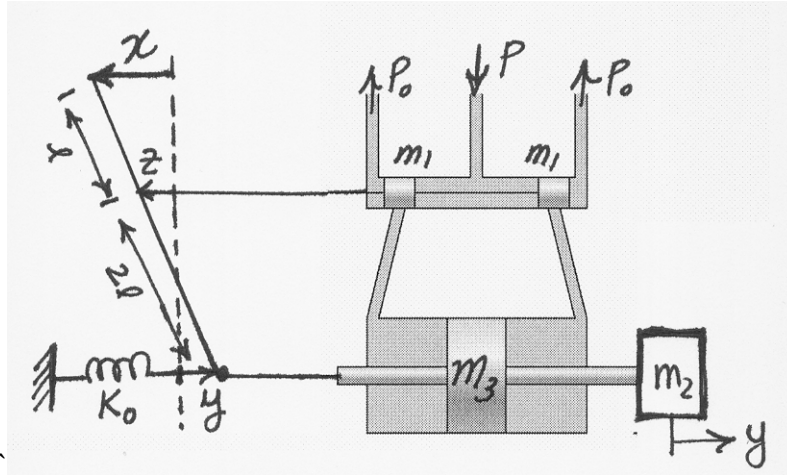

Figure 2. Hardware closed-loop implementation.
1. Set the equations governing the dynamics of this system (this is the same as in *Project 1* except that in the hydraulic part you need to take into account the new geometry introduced in Figure 2 – see a clarification page at the end of this document). Now, replace the input voltage, v_a , with the expression given in equation (1) and classify the new input $y_r(t)$ (i.e., the desired load position) and load position, $y(t)$, as the input and output variables, respectively.